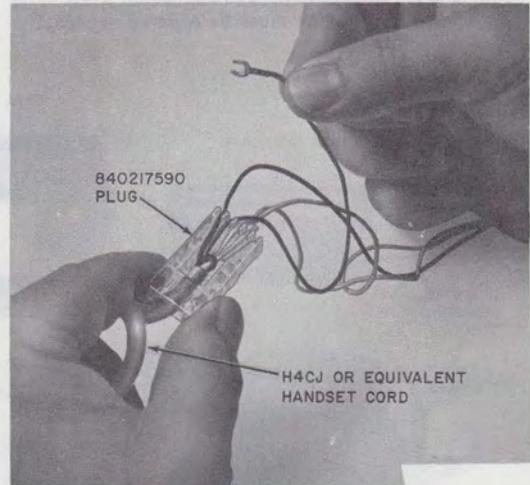

Fig. 5—Installing Spade-Tipped Handset Cords
3.08 Installing Spade-Tipped Handset Cords in Early Production Sets Equipped with G12A Handset: To install spade-tipped handset cord (H4CJ or equivalent) remove J Hook Stayband from the cord. Cut back and remove cord sheath to stayband marks. Thread spade-tipped conductors through plug (Fig. 5) (spade tips must be bent to clear cord entrance). Pull cord until about 1/4-inch of cord sheath is in the central cavity of the plug. Separate the conductors into two groups and tie an overhand knot, pulling the knot to the cord sheath. Pull the cord from plug until strain relief position is attained by knot entering sheath and resting against plug. Feed spade-tipped conductor straight through jack 812266203 (P-22F620) and connect to proper terminals. Insert plug in jack.